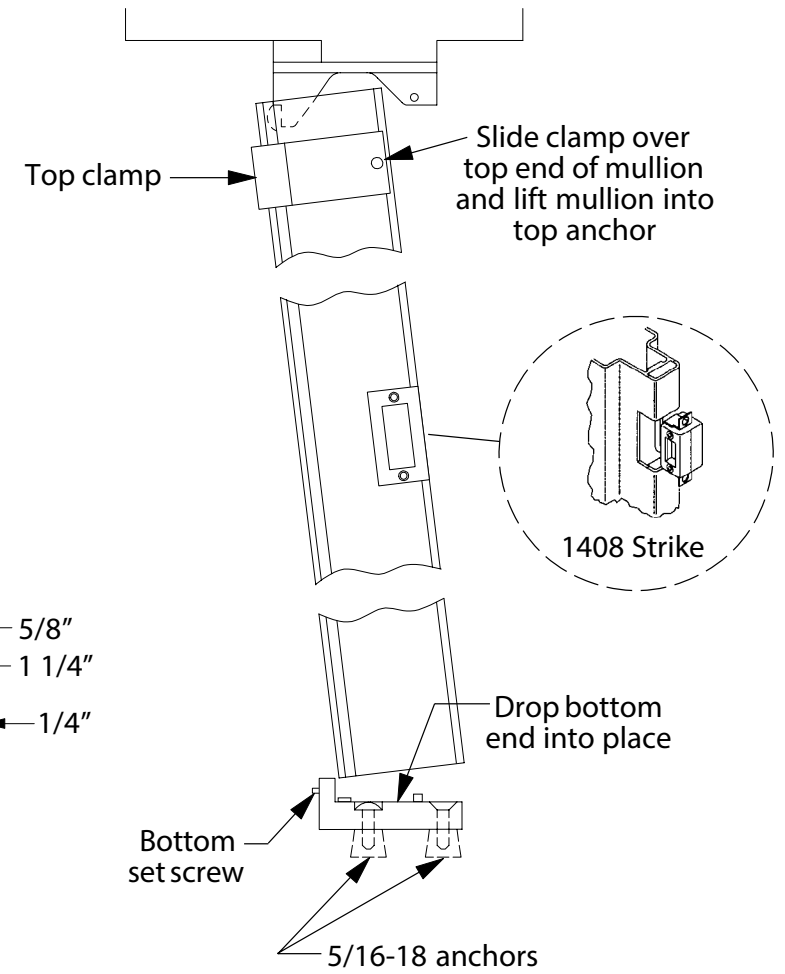

Figure 9
4. Insert mullion in top fitting and slide bottom of mullion into place in bottom fitting (see Figure 9 on reverse side).
6. Raise top mullion clamp over top mullion fitting and secure with mounting screws (see Figure 9 on reverse side).
8. Adjust strikes for 1/32" clearance between latchbolt and strike (see Figure 9 on reverse side).